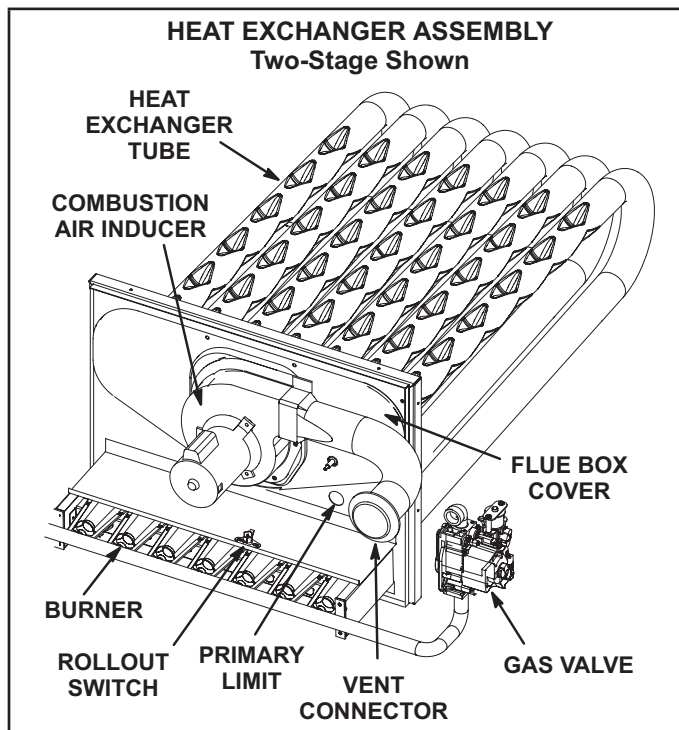

FIGURE 41
- 4 - Remove and retain screws securing combustion air inducer to flue box. Remove vent connector. See FIGURE 41.
Limit controls are factory-set and are not adjustable. The primary limit is located to the right of the combustion air inducer. See FIGURE 41.
This normally closed switch opens on a temperature rise. The roll out switch is factory-set and is not field adjustable. See FIGURE 41.